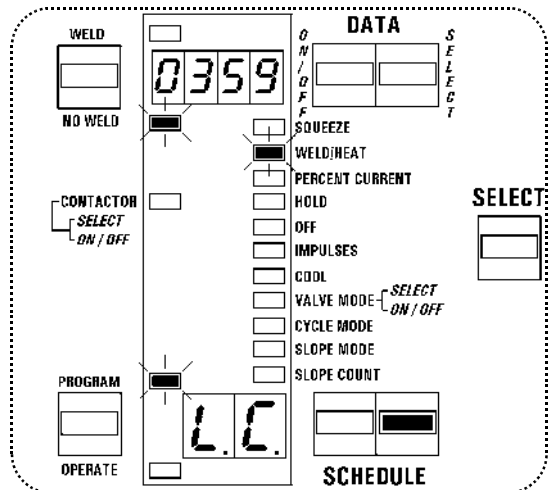

Figure 7.5 Program last count
5. Program the desired last count for this stepper, e.g. for stepper 0, last count may be any number from 0000 to 9999, as shown on Figure 7.5. In fact, this value will be first count at beginning of the weld sequence. This value will be reset or reprogrammed after resetting the stepper.